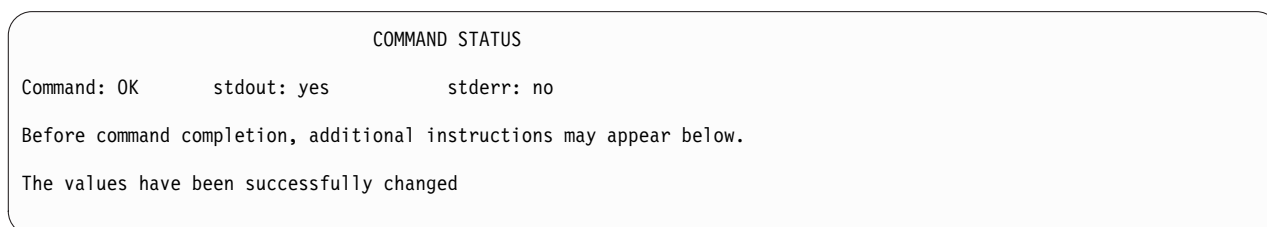

Figure 147. COMMAND STATUS Screen – OK
10. When the execution of the command is complete, the screen shown in Figure 147 displays. "OK" appears in the "Command" field.